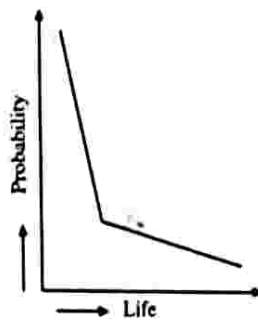

Figure 4.7
- ii) **Retrogressive Failure:** Such type of failure occurs in certain items which have more probability of failure in the beginning of their life and with the passage of time the changes of failure become less or we can say that if the unit services increases in the beginning; its expected life increases, e.g., engines. Figure 4.7.